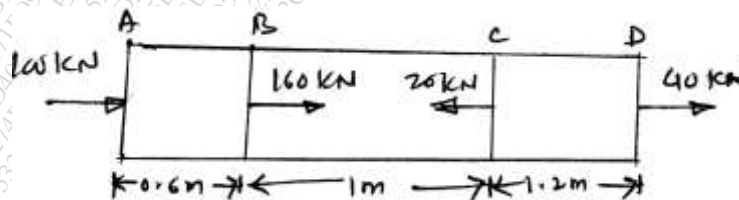

Figure 1
A composite bar made up of aluminium and steel is held between two supports as shown in figure 1. The bars are stress free at the temperature of 42°C what will be the stresses in the two bars when the temperature drops to 24°C if
- a) A brass bar having c/s area of 1000 mm^2 is subjected to axial force as shown in figure 1. Find total elongation of bar. $E_{\text{brass}} = 100 \times 10^3 \text{ N/mm}^2$